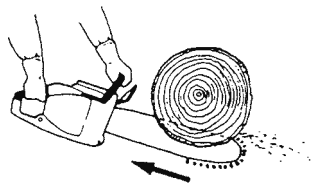

Fig. 16
- When cutting with the upper part of the chain the reactive force will push the saw towards you and away from the wood you are cutting. (Fig. 16)